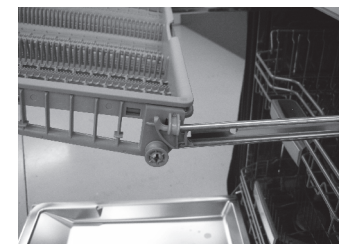

Figure 13
- Position drawer hooks on top of the roller guides (see **Figure 13**).